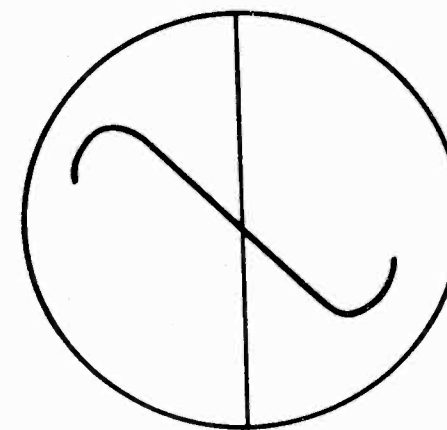

FIGURE 2
- A much more satisfactory IF and discriminator alignment may be obtained by using a 10.7 MC signal generator, frequency modulated at an audio frequency and swept approximately 600 KC (± 300 KC). An oscilloscope should be connected to test jack pin 3 and all IF slugs adjusted for a symmetrical pattern of highest amplitude. See Fig. 1. For discriminator alignment, connect oscilloscope to test jack pin 1 and adjust T4 for highest linear symmetrical pattern. See Fig. 2.